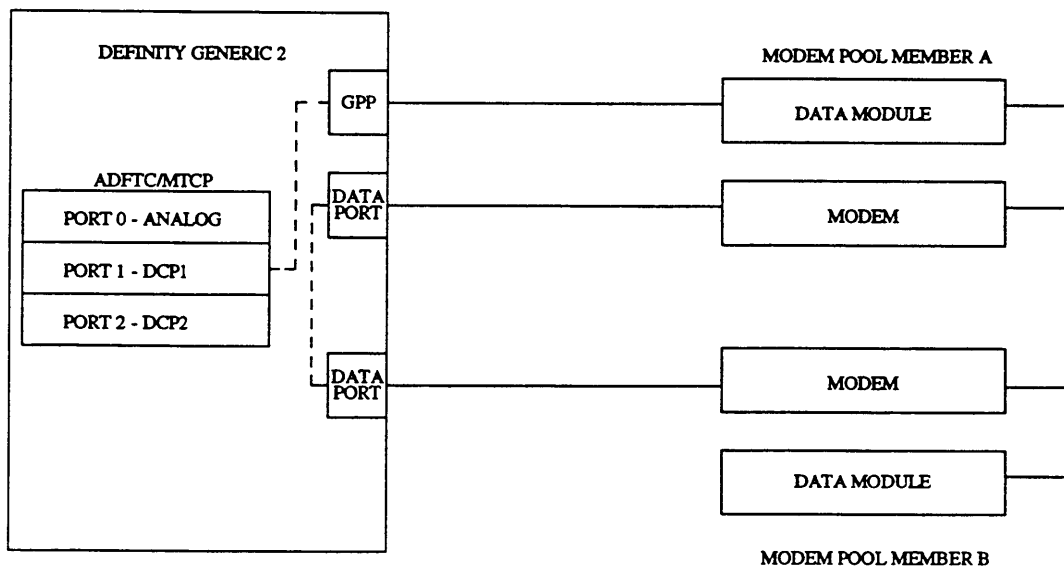

Figure 5-21. Tests 2 and 3 - Loopback Tests
- Remote loopback tests (see Figure 5-21, *Tests 2 and 3 - Loopback Tests*).
- Local loopback tests (see Figure 5-21, *Tests 2 and 3 - Loopback Tests*).